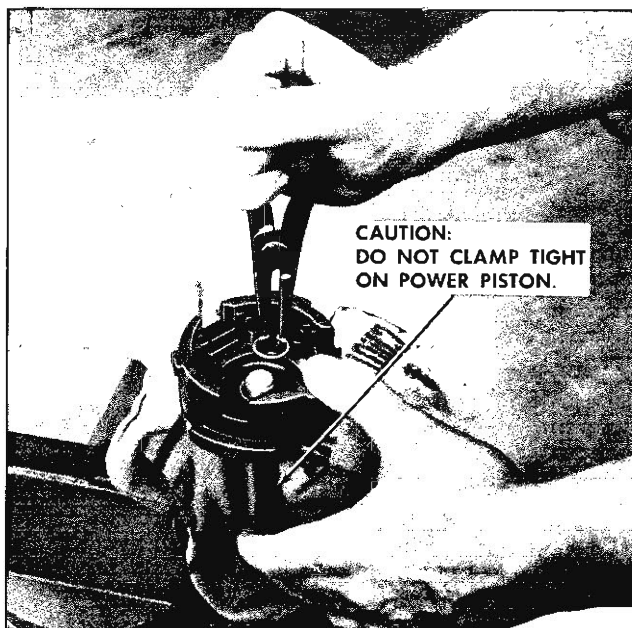

Fig. 29—Removing Air Valve Snap Ring
16. Position the power piston in a vise padded with shop-towels, with the tube down. (Fig. 29)
18. Install snap ring in groove of air valve with pliers J-4880. (Fig 29)